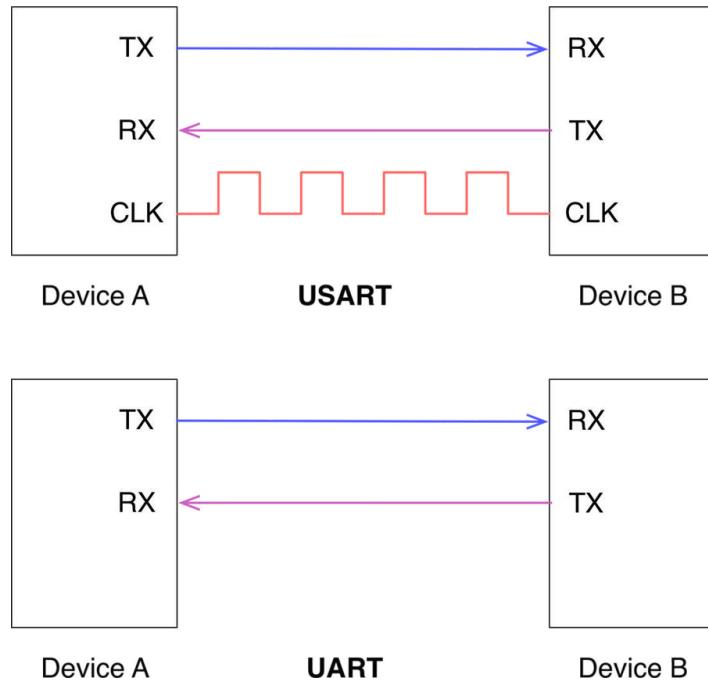

Figure 3: The signaling difference between a USART and a UART
A *Universal Synchronous Receiver/Transmitter* interface is a device able to transmit data word serially using two I/Os, one acting as transmitter (TX) and one as receiver (RX), plus one additional I/O as one clock line, while a *Universal Asynchronous Receiver/Transmitter* uses only two RX/TX I/Os (see Figure 3). Traditionally we refer to the first interface with the term **USART** and to the second one with the term **UART**.